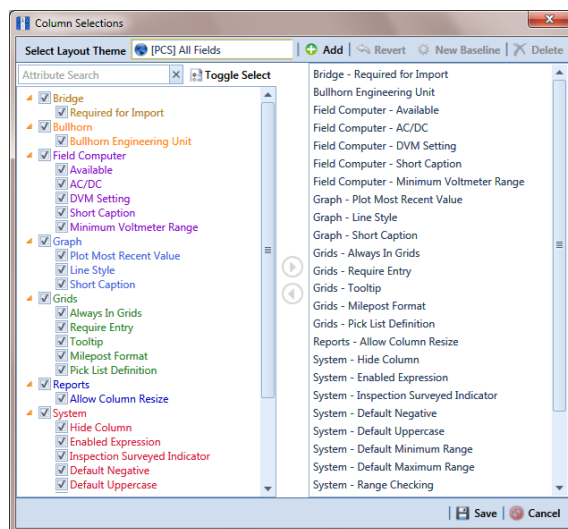

Figure 3-26. Column Selections
- 2 Click  **Customize** to open the *Column Selections* dialog box (Figure 3-26).